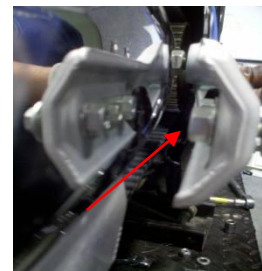

Fig 1.2
- Using a 14mm socket, loosen and remove bolts holding the canister to the mounting bracket. **Fig 1.2**